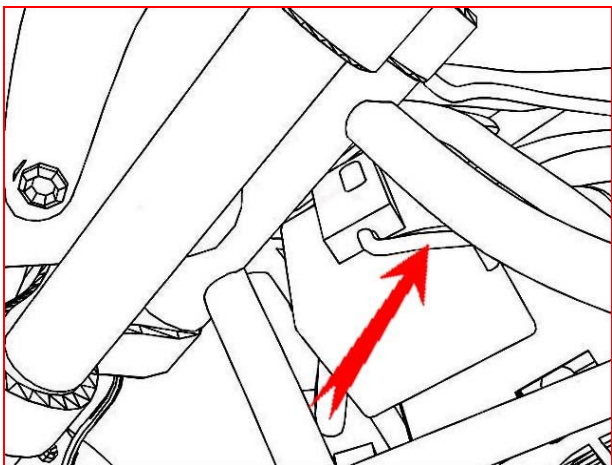

Figure 10
11. Route TFI harness between frame and OEM harness that goes over the battery negative. (fig 10)